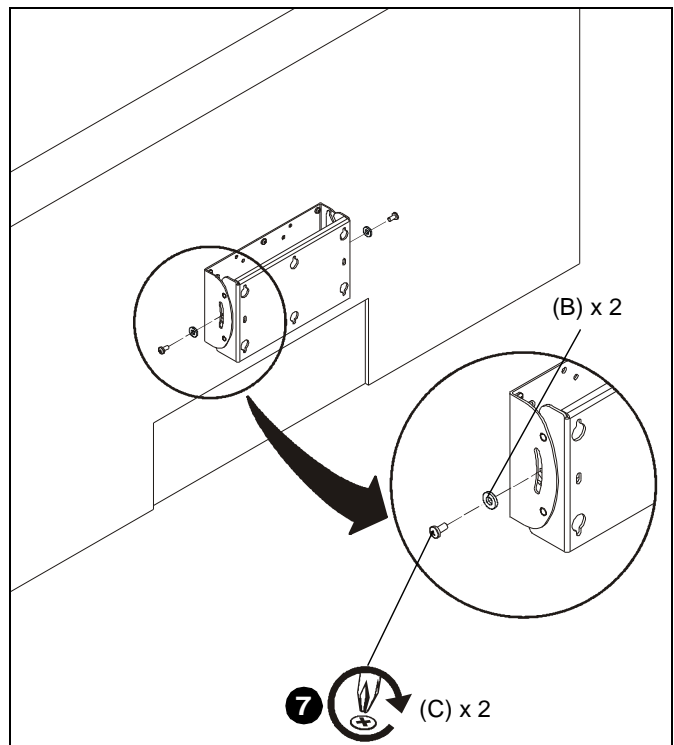

Figure 11
7. Use two M5x10mm Phillips pan machine screws (C) and two #10 washers (B) to secure front plate to wall bracket. (See Figure 11)